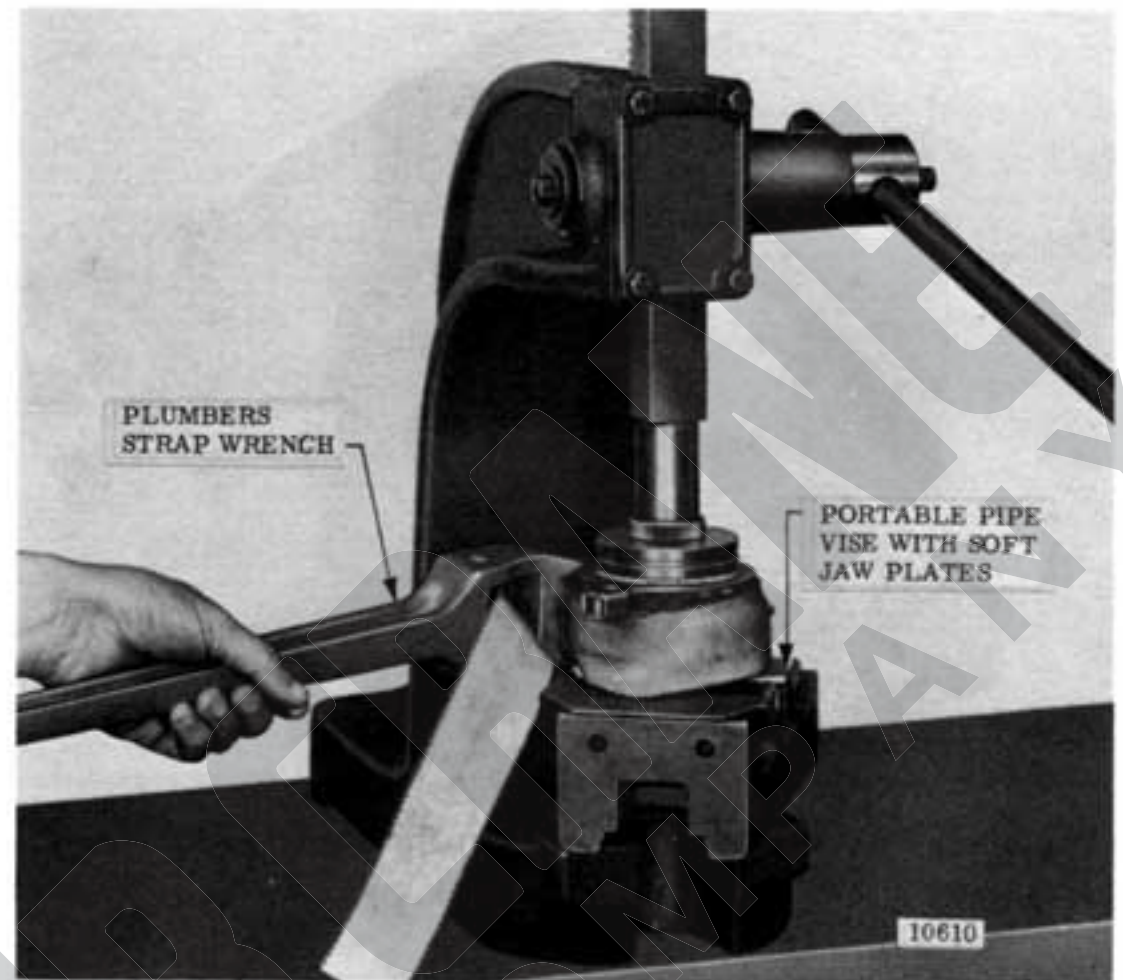

Figure 7-22. Winding Load Brake Gear Using a Plumber's Strap Wrench to Set Up Load Brake Spring.
- (6) The brake spring must be pre-loaded at assembly to a torque of from 10 to 14 lb. ft. This is accomplished using a plumber's strap wrench to wind (rotate) load brake gear to set up spring (Figure 7-22) while pressing brake flange into place using an arbor press. Clamp pinion end of shaft into a portable vise to keep brake from rotating in press. Use brass or copper jaw plates on vise to protect pinion gear teeth. Wind gear counterclockwise (viewing brake from flange end) with plumber's strap wrench and press down on flange until snap ring groove in shaft is exposed allowing snap ring